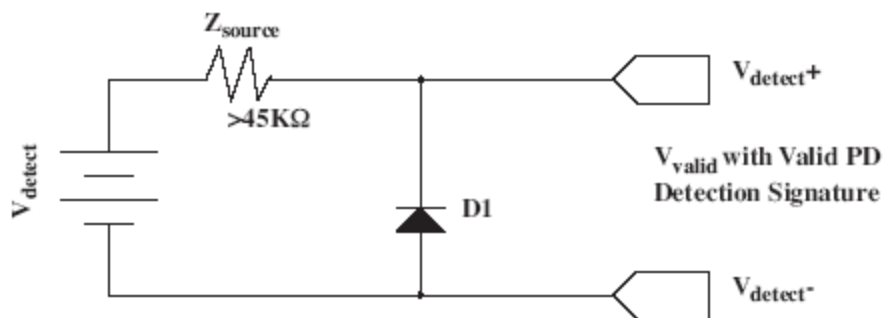
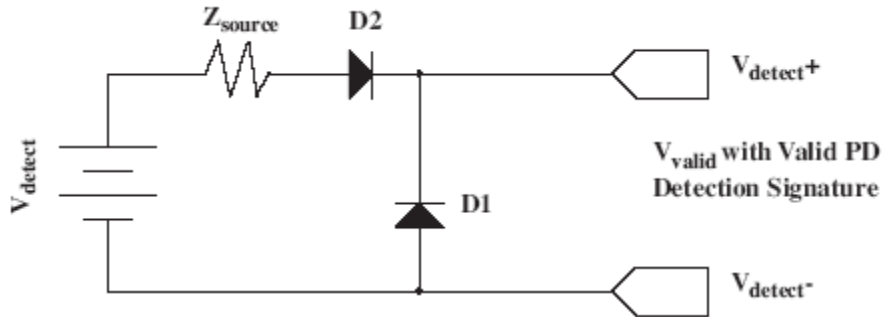

Figure 33-8—PSE detection source
Figure 33-9—Alternative PSE detection source
[1] IEEE Std 802.3af-2003: Subclause 33.2.5, Figures 33-8, 33-9
**Discussion:** The PSE should detect the PD via the PSE PI. The PSE's detection circuit can have a Thevenin equivalent circuit consistent with Figure 33-8 or 33-9, in all detection states. This is intended to prevent a PSE to PSE connection from detecting a valid PD signature.
**PSE Detection Source (Figure 33-8):** The PSE is connected to the PD simulator with a 1m length of Category 5 cable. An oscilloscope is connected across the PI of the PD simulator. A 45k $\Omega$  load is attached to the PD's PI.
**Alternative PSE Detection Source (Figure 33-9):** The PSE is connected to the PD simulator with a 1m length of Category 5 cable. A current meter is connected to the PI of the PD simulator. A current source is connected to the PI of the PD simulator to inject current to the  $V_{\text{detect}+}$  port.
- a. If the DUT does not accept current into the  $V_{\text{detect}+}$  port, the DUT follows Figure 33-9. Otherwise, the DUT should accept current into the  $V_{\text{detect}+}$  port and the DUT should show a loaded PI voltage of less than half of the open circuit PI voltage, according to Figure 33-8.